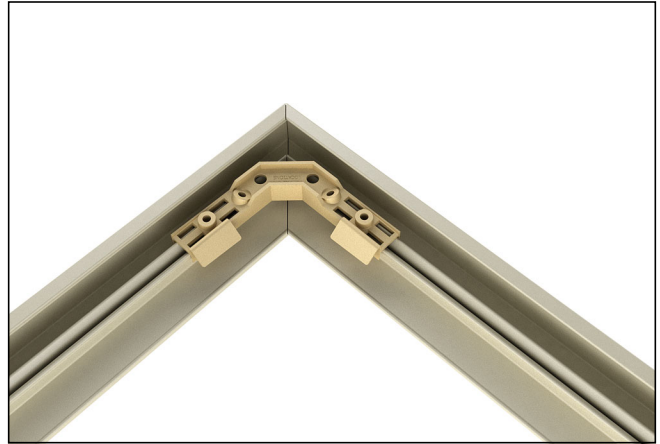

Figure 50
1. Test fit casing parts on flat surface with included corner keys without screws to verify assembly. See *figure 50*.